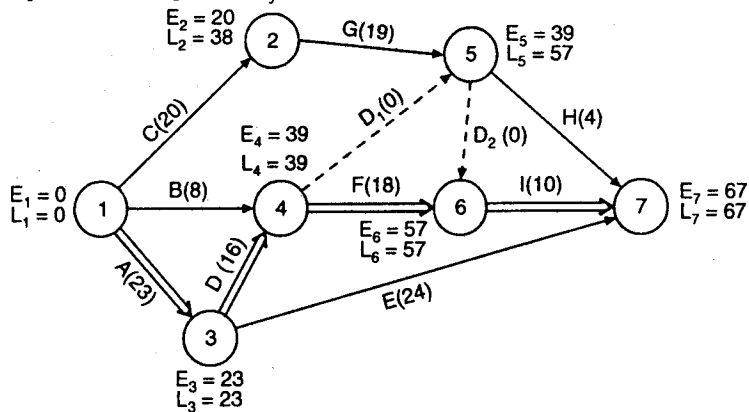

Fig. 25.22
**Solution.** The resulting network is shown in Fig. 25.22. The dummy activities  $D_1$  and  $D_2$  are introduced to establish the correct precedence relationship. The nodes of the project are numbered so that their ascending order shows the direction of progress in the project :